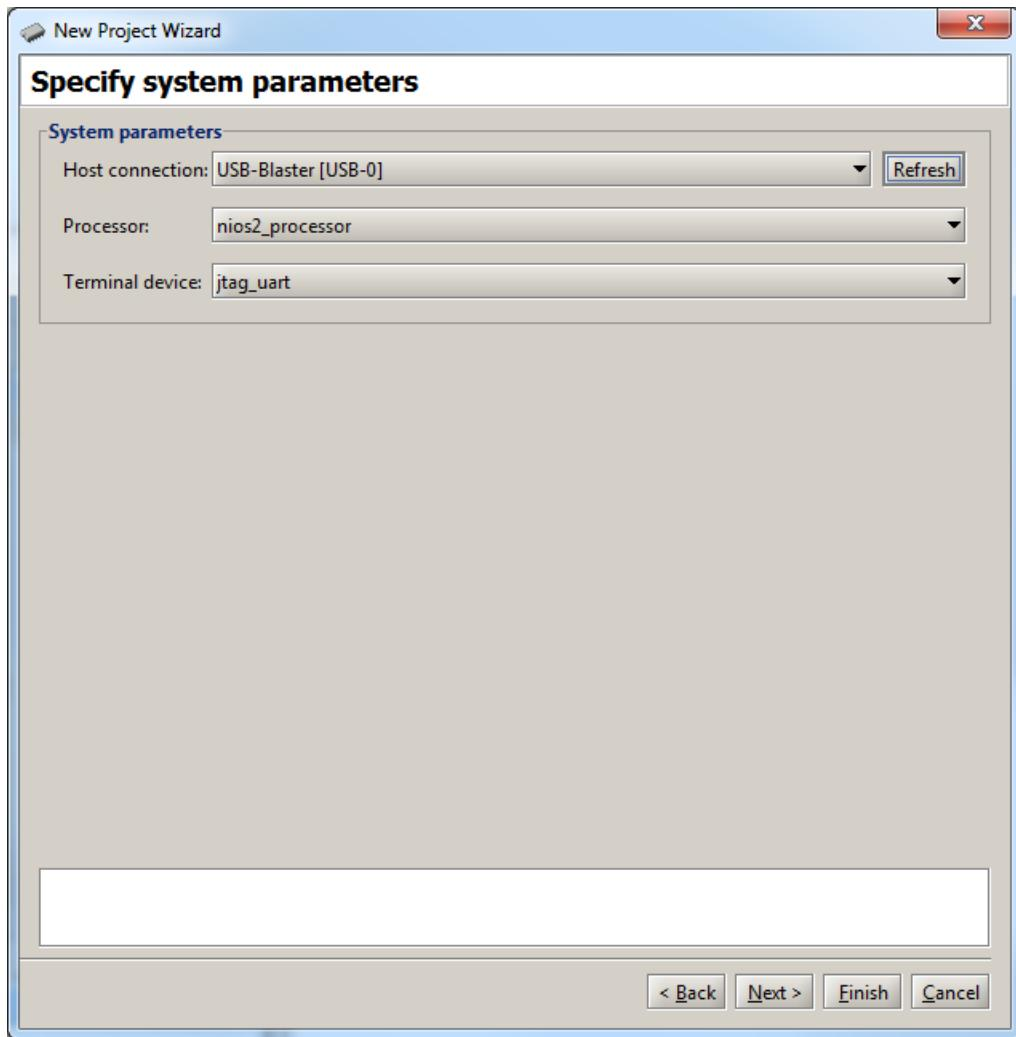

Figure 31. Specify the system parameters.
7. In the window in Figure 31, ensure that the Host Connection is set to *USB-Blaster*, the Processor is set to *nios2_processor* and the Terminal Device is set to *jtag_uart*. Click Next.